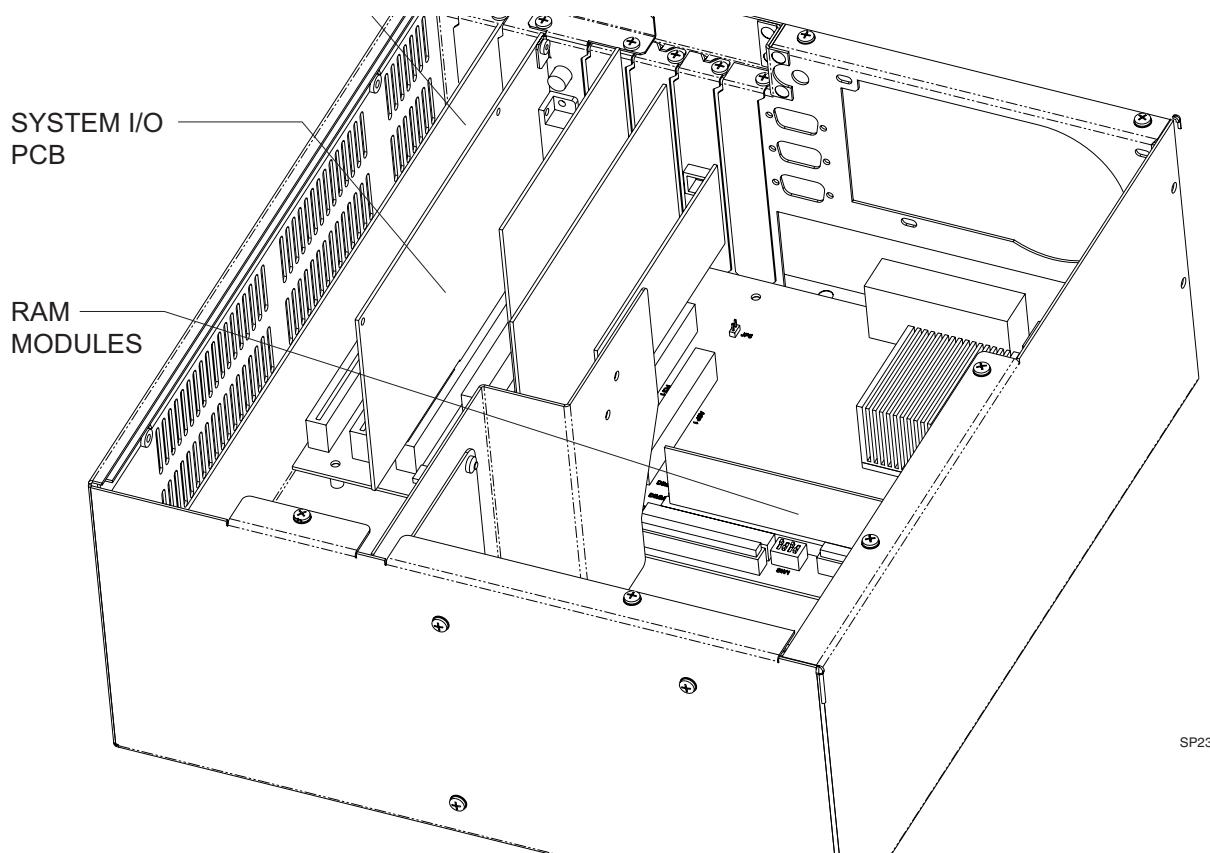

FIGURE 4. RAM Module Location
- 1.16 Locate the RAM modules. See FIGURE 4.